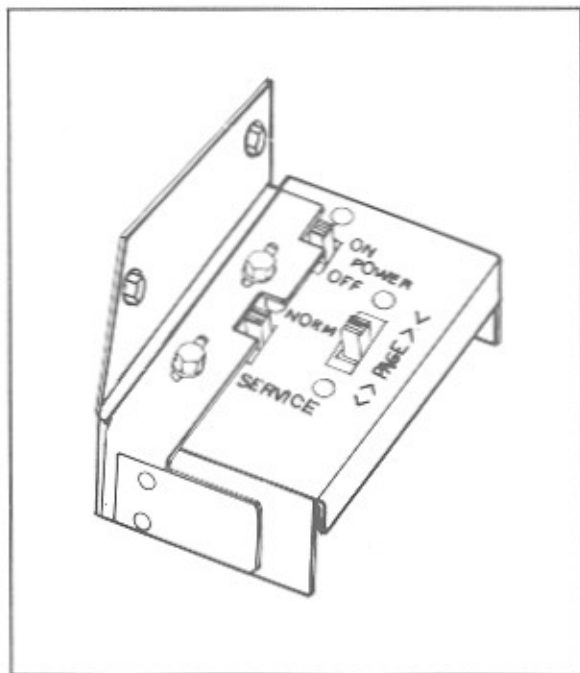

Figure 3-2. Service Switch
1. Open the top door and place the SERVICE switch (figure 3-2) in the SERVICE position. The phonograph display will say \* SERVICE MODE \*.
2. Move the SERVICE switch to the SERVICE position, if not already done (refer to figure 3-2).